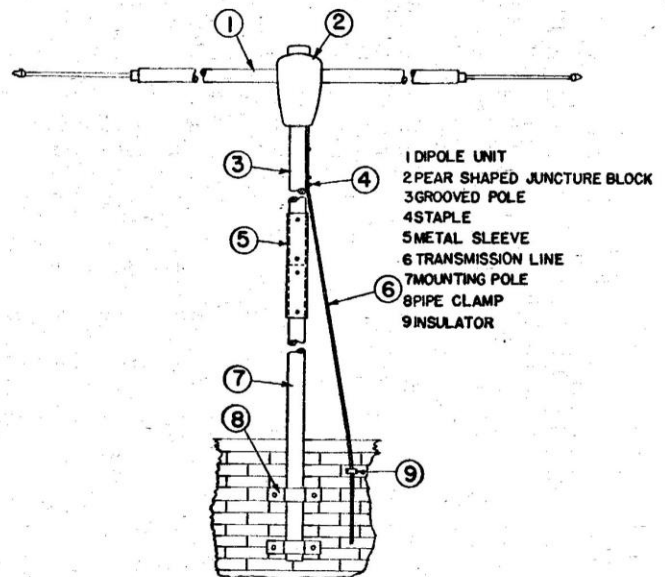

Fig. 1. Dipole Assembly
Since the dipole unit (1) is completely assembled at the factory, getting the antenna ready for installation is extremely simple. Take the 4-foot pole with a groove in one end (3) and insert the grooved end in the socket of the pear-shaped juncture block (2) permitting the transmission line to pass through the groove. Fasten the pole and juncture block together by means of two wood screws inserted in holes pre-drilled at the factory. Staple the transmission line to this pole with the three insulated staples (4) to prevent chafing of the insulation by the wind. (See Fig. 1.)
Clamp the 4-foot mounting pole and sleeve assembly (5 and 7), with the sleeve uppermost, to a vertical wall as shown in Fig. 1 using the two pipe clamps (8). Vertical pipes and poles may be used instead of vertical walls for mounting the 4-foot pole. In these cases the metal bands may be used in conjunction with the pipe clamps for easy installation. The grooved pole which has been attached to the dipole unit is now inserted in the sleeve as shown leaving the fastening screws out temporarily.